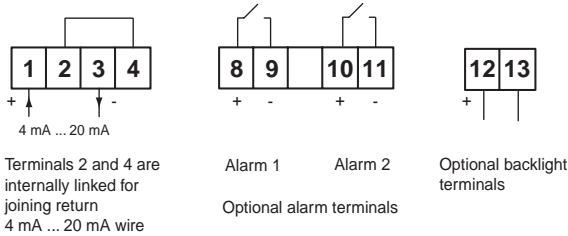

Fig. 2.3 Terminal connections
- Connect the panel wiring to the rear terminal block as shown in fig. 2.3. To simplify installation, the terminals are removable so that the panel wiring can be completed before the instrument is installed.